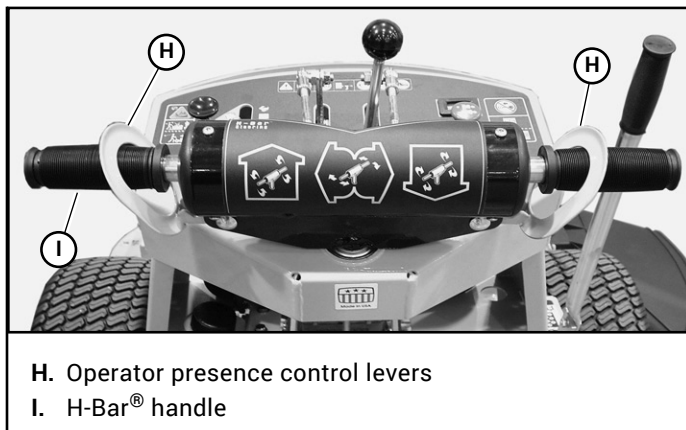

Figure 3-2
- H. **Operator presence control levers (Figure 3-2)** – engages the operator presence switches. If the switch is not engaged the unit will not operate. Refer to the Safety Interlock system for more information.
- I. **H-Bar® handle (Figure 3-2)** – this handle controls the unit’s acceleration, speed, steering direction and dynamic braking.